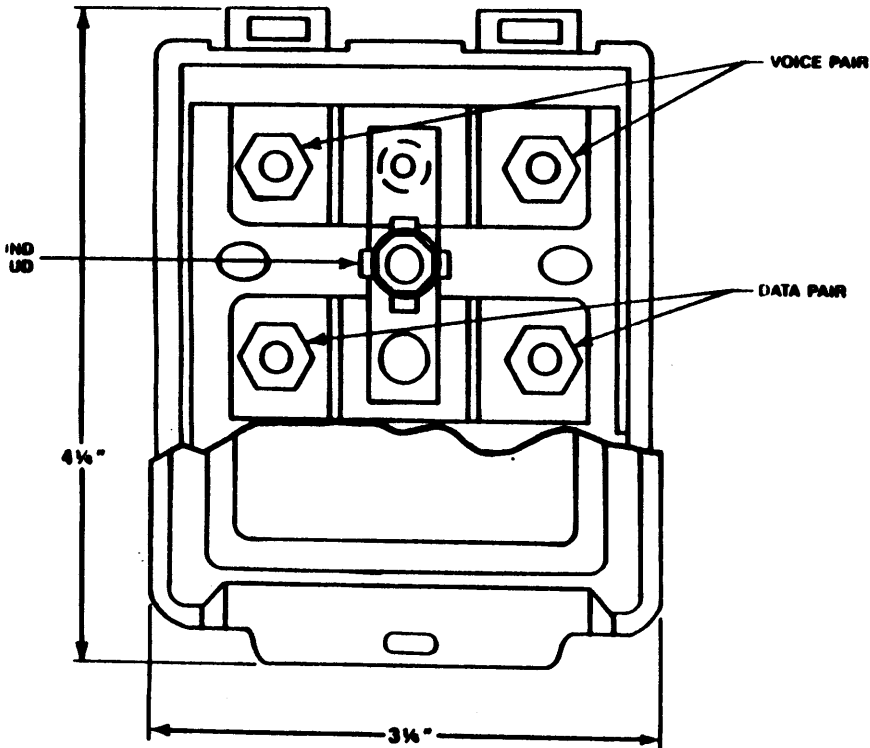

Figure 2A
- Terminate the interbuilding wiring (22-24 AWG copper) on the terminal posts for each primary protector as shown in Figure 2A, making sure that separate pairs are used for the voice and data pair wiring.